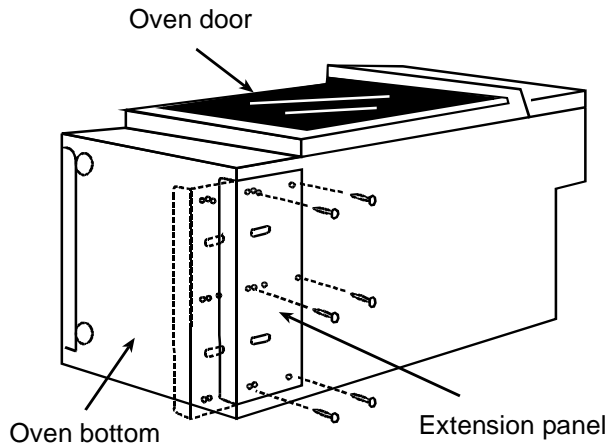

Figure 5 – Extension Panel
- For a cutout height greater than 28¹/₈" (71.4 cm) adjust extension panels. See figure 5.